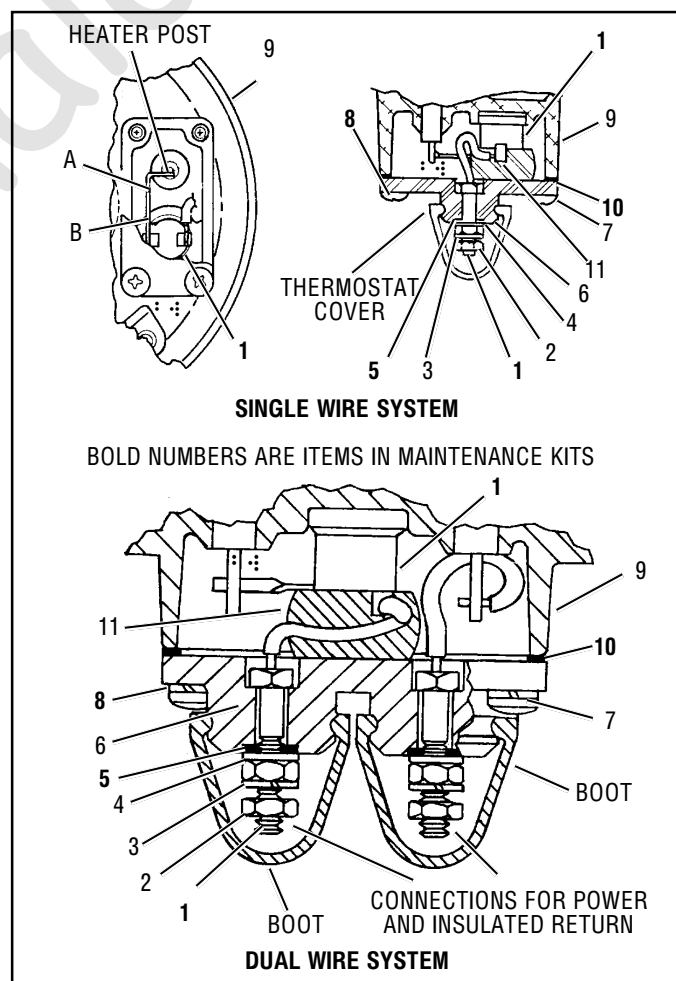

FIGURE 5 - AD-4™ AIR DRYER SINGLE AND DUAL TERMINAL THERMOSTAT ASSEMBLIES
Turn off the ignition switch and cool the end cover assembly to below 40 degrees Fahrenheit. Using an ohmmeter, check the resistance between the electrical terminal and the metal end cover (see Figure 5). (**Note:** On the dual terminal end cover, check the resistance between the two terminals.) The
With the ignition or engine control switch "off", remove the thermostat cover (see Figure 5). Using an ohmmeter, check the resistance between the metal end cover and the heater post (see Figure 5). (**Note:** On the dual terminal end cover, check the resistance between the two terminals.) For a 12 volt, 60 watt end cover, the resistance should be 2.0 - 2.8 ohms and for a 24 volt, 120 watt end cover, 4.0 - 5.6 ohms. These resistance values apply to either single or dual terminal air dryer end covers. If the heater resistance value obtained is outside the stated limits, a new or remanufactured end cover should be installed, since the heater element cannot be serviced. Check that a good ground path exists between the air dryer end cover casting and the vehicle chassis. Correct if needed. If the heater resistance value obtained is within the stated limits the thermostat should be replaced (Kit Number 102657) or a new or remanufactured end cover installed. **Note:** The dual terminal air dryer cover requires kit number 103982.
Reinstall the thermostat cover as illustrated in Figure 5. Take special care to assure the rubber spacer and the gasket are correctly installed, to assure proper operation.
4. Pull boot from the thermostat and heater cover and slide it onto the wire to expose the connection. Remove nut and disconnect electrical wire from the terminal. **Note:** Vehicles with insulated ground (2 wire) system will have two boots and two terminals to be disconnected. (See Figures 5 & 8.)
Note: If during the *Operation & Leakage Tests* it was determined that the thermostat was inoperative, use the following procedure for repair or replacement. It is not necessary to replace this unit each time the end cover is rebuilt. Use thermostat maintenance kit 102657 for single terminal application. For dual terminal application, use kit #103982. (See Figure 5.)
THERMOSTAT DISASSEMBLY (Refer to Figures 5 and 8)